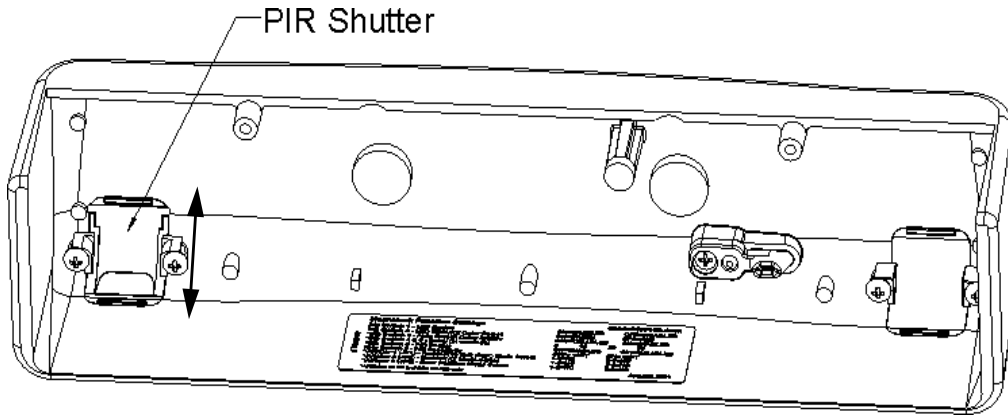

Figure 43. PIR Shutter
- IF PIR coverage needs to be changed, THEN ADJUST shutter to desired opening (see Figure 43, “Adjusting the PIR Shutter”).